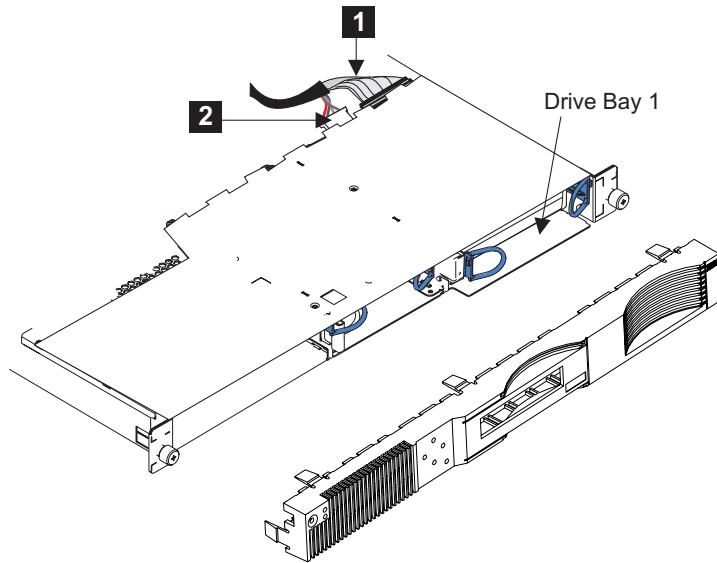

Figure 84. Removing the SAN Volume Controller 2145-4F2 disk drive cables
4. Disconnect the SCSI signal connector **1** and the power connector **2** from the back of the disk drive, and then remove the cable. See Figure 84 on page 254.